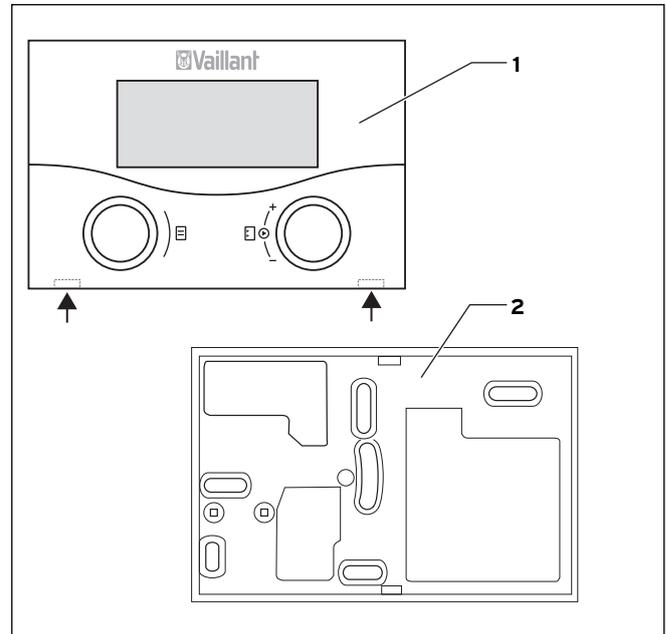

Fig. 5.1 Removing the VRT 392f
⇒ Pull the controller (1) off the wall socket (2). This can be done by pushing a screwdriver into the two retaining straps (see Fig. 5.1 arrows).